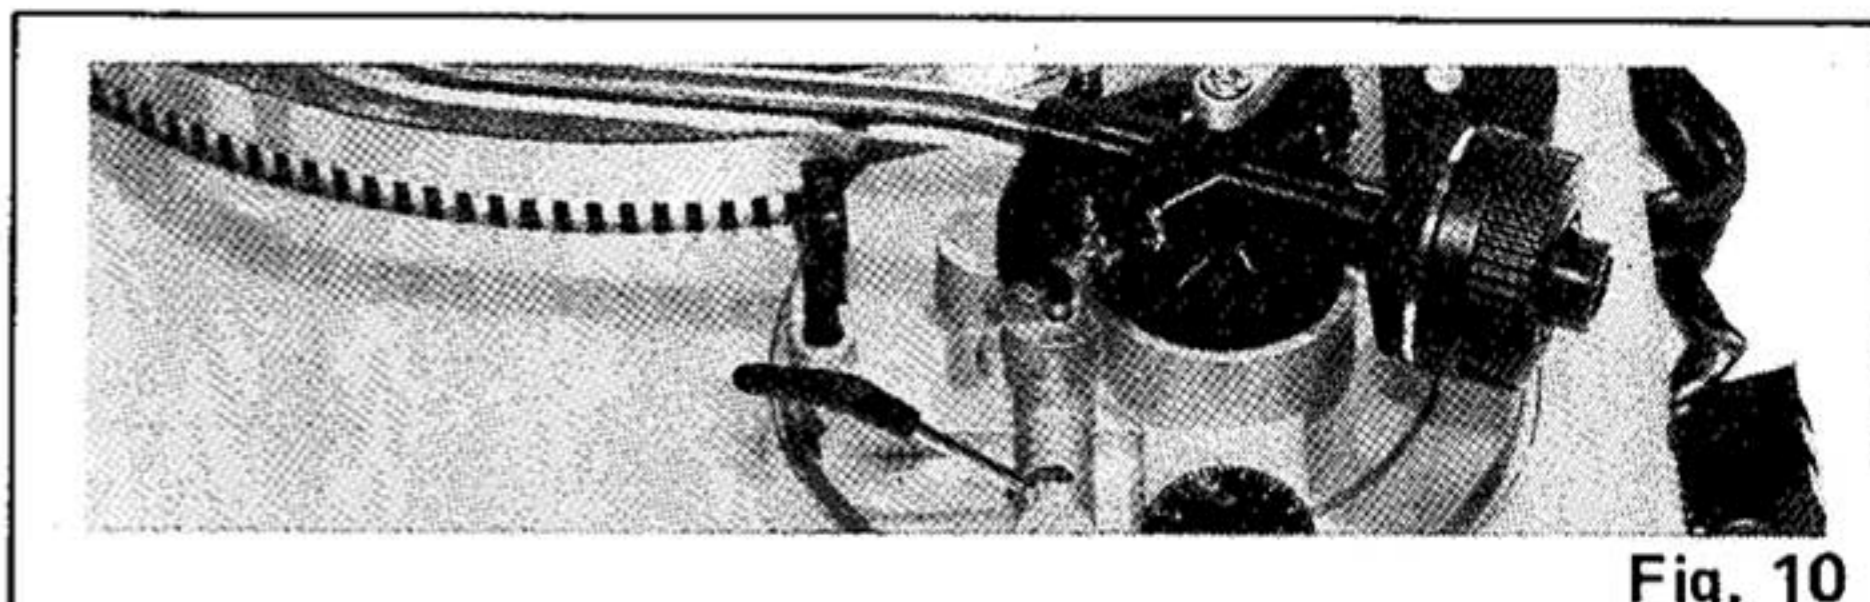

Fig. 10
8. Set the cueing lever to the down position. (See Fig. 10)